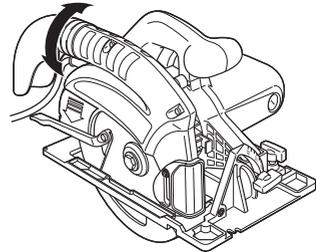

Fig. 12
- (2) Turn the dust guide and point it in the desired direction to discharge sawdust. (Fig. 12)